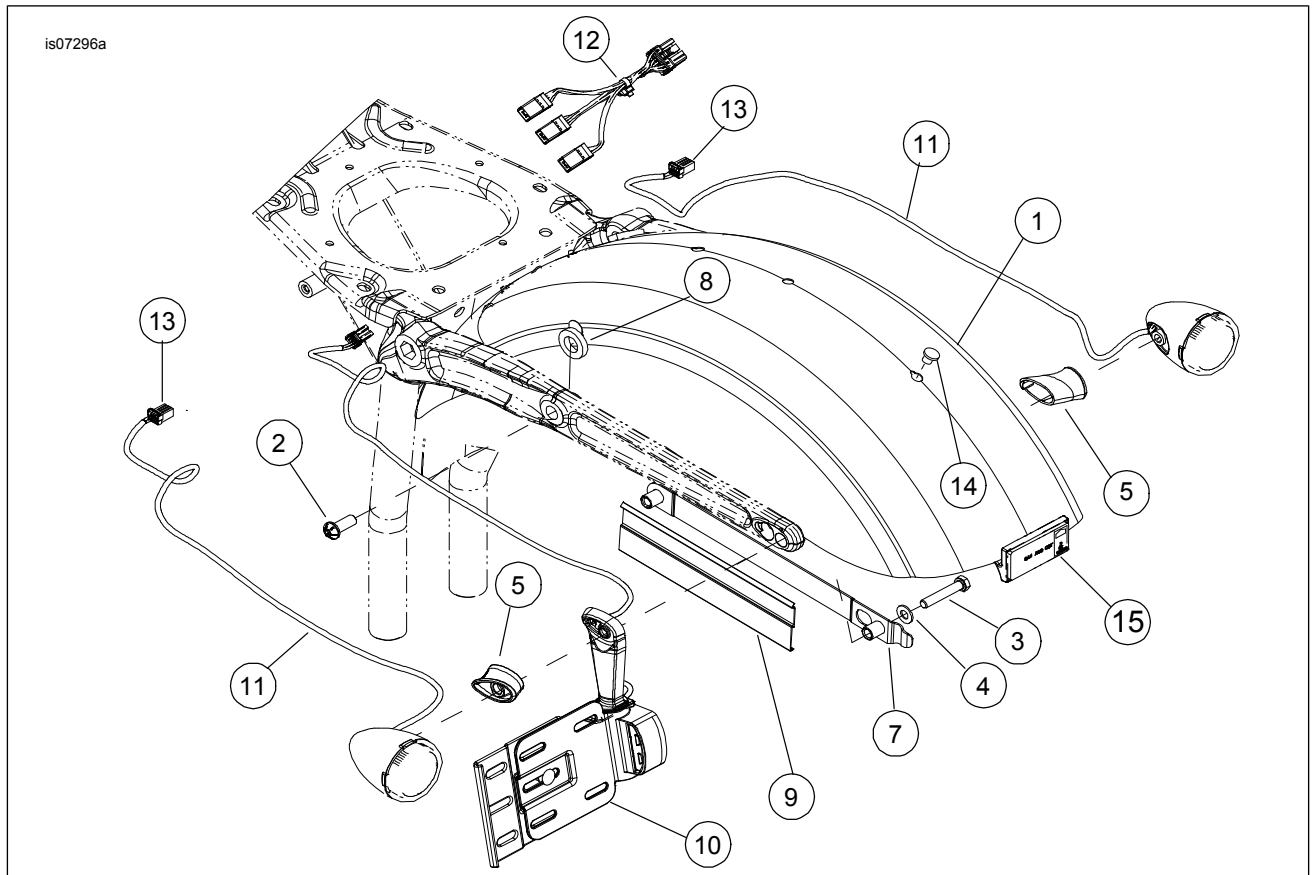

Figure 2. Remove Existing Side Mount License Plate Assembly
3. See Figure 2. Disconnect turn signal and license plate illuminator wiring from the rear lighting harness (12) located underneath the seat.
4. Remove left hand turn signal assembly (11)
5. Remove side mount license plate assembly (10) and discard.
6. Remove right hand turn signal assembly (11).
7. Remove fender mounting screws (2).
8. Remove fender mounting brackets (7). Remove plastic wire channels (9) and save.
9. Remove rear reflector (15) from the rear edge of fender.